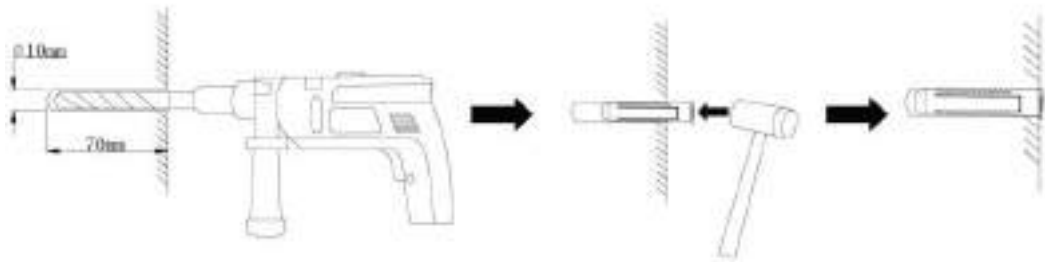

Figure3-9 Insert the screw anchors
- Step 4 Drill 2 holes on the wall with drill $\Phi 10$, insert 2 screw anchors into the drill holes, as shown in Figure3-9.